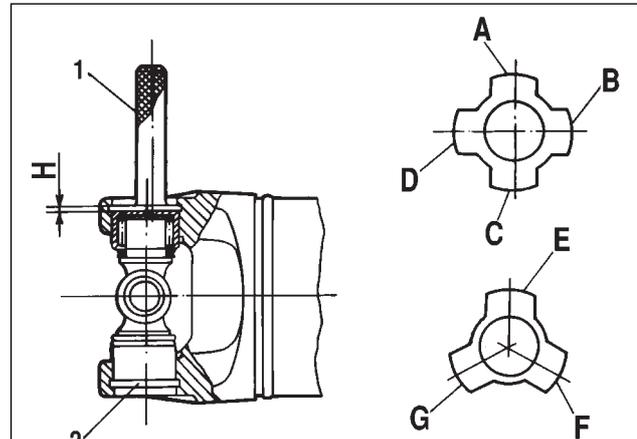

Fig. 3-52. U-joint reassembling:
- remove old greasing, lubricate the inner surface of the bearing housing with grease № 158 or ФИОЛ-2У (0.8-1.2 gr on each bearing). Do not grease the spider thorns, to avoid an air plug during reassembly. Mount the spider into fork apertures. Insert a bearing in one of the yoke openings and place circlip1 (fig. 3-52) with thickness of 1.56 mm in the yoke groove. Insert a bearing in the other yoke opening until the opposite bearing will thrust against the circlip end face. The pressing force should not exceed 15000 N (1500 kgf).